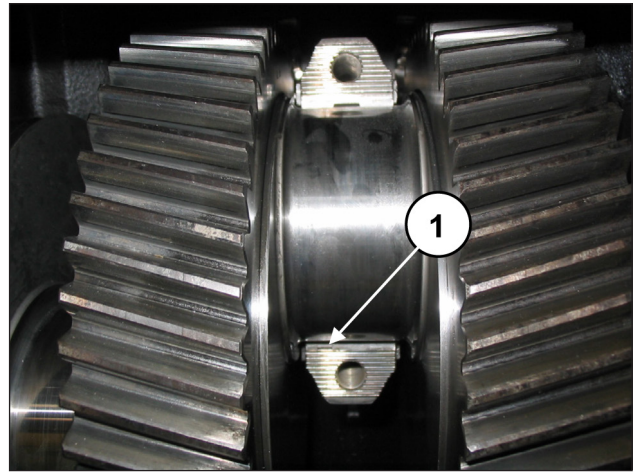

Fig. 81
⚠ For proper assembly of the half-bearings, ensure that the reference tab on the half-bearings are positioned in their housing on the half support (pos. ①, Fig. 81).